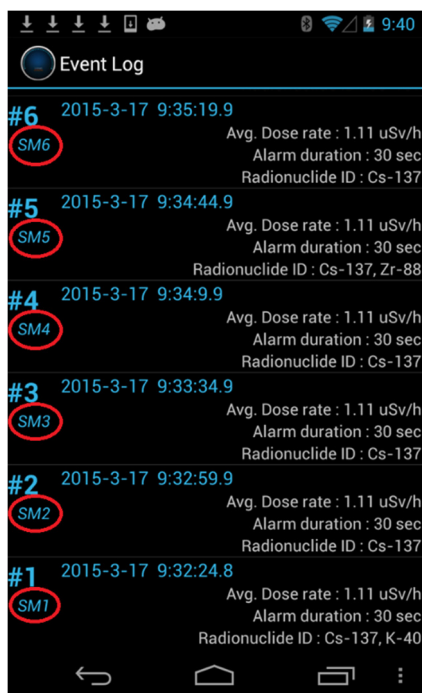

Figure 4.30. Sequential mode Event Log list example
10. You may view saved sequences in the same way you view events (touch the menu button, select **Setup & Event**, then select **Event Log**). Events captured in Sequential mode are labeled with the additional designation “SM#” (Figure 4.30).